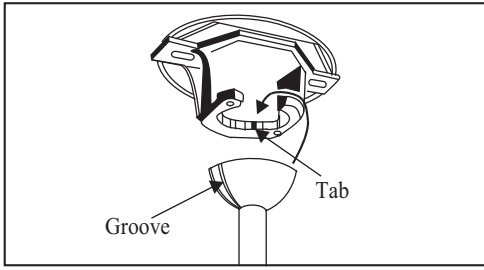

Figure 9
4. Carefully lift the fan assembly up to the ceiling mounting bracket and seat the hanger ball in the mounting bracket socket. Make sure the tab on the mounting bracket socket is properly seated in the groove in the hanger ball (Figure 9). This will help to balance the ceiling fan.
THE TAB IN THE RING MUST REST IN THE GROOVE OF THE HANGER BALL AS FIGURE 9. FAILURE TO PROPERLY SEAT THE TAB IN THE GROOVE COULD CAUSE DAMAGE TO WIRING.